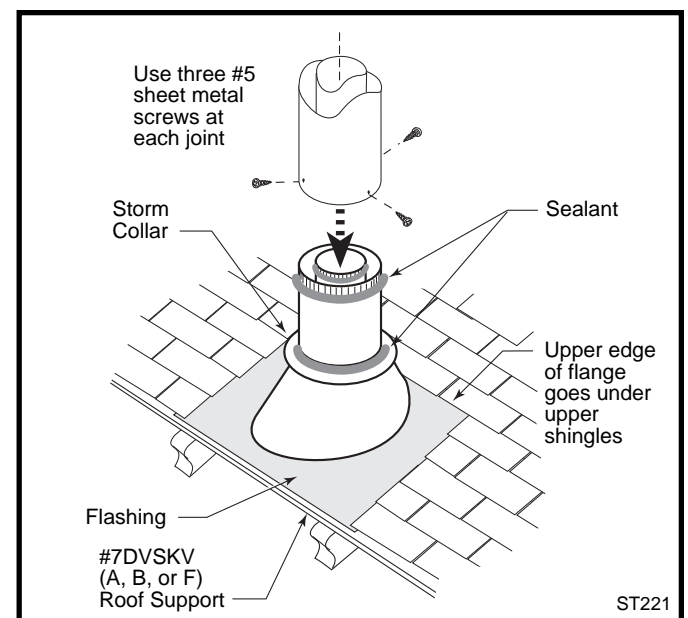

Fig. 41 Roof support and flashing.
7. Install the appropriate roof support and flashing, making certain that the upper flange of the flashing base is below the shingles. (Fig. 41)
9. Install the storm collar and seal around the joints. (Fig. 41)
6. Apply high-temperature sealant to the top of the chimney. Feed the two liners down through the chimney flue and damper opening. Fasten the termination assembly to the chimney with the four set screws (C) provided.
8. Attach the flex liners to the Transition Connector, using high-temperature sealant and clamps as shown in Figure 41. Prop the connector in rough position until the heater is in place in front of it.